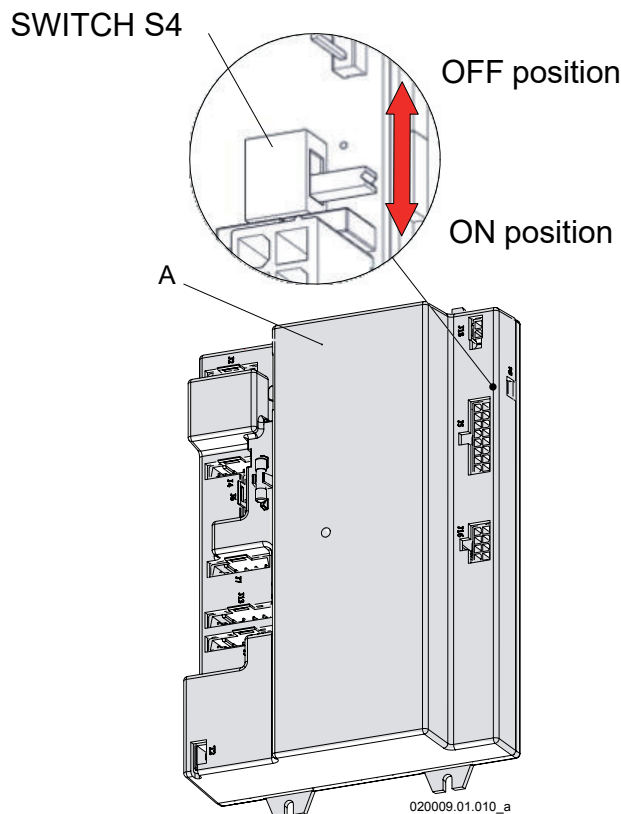

Figure 16-13 Control board "A"
- 9.- Move "Switch S4" as per Figure 16-13, from OFF position to ON position;